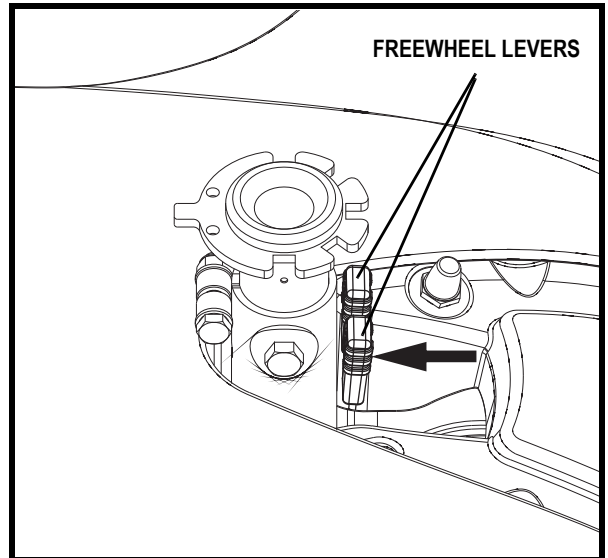

Figure 9. Freewheel Mode (Drive Disengaged)
3. Pull both levers rearward toward the seat post to disengage the drive motors (freewheel mode). See figure 9.